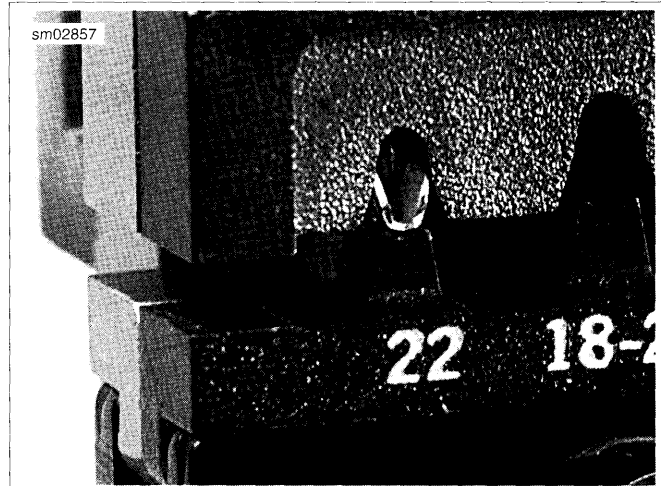

Figure A-34. Crimp Tails in Vertical Alignment between Punch and Die
2. See Figure A-34. Ratchet the handles together until the crimp tails are held in vertical alignment between the punch and the die.